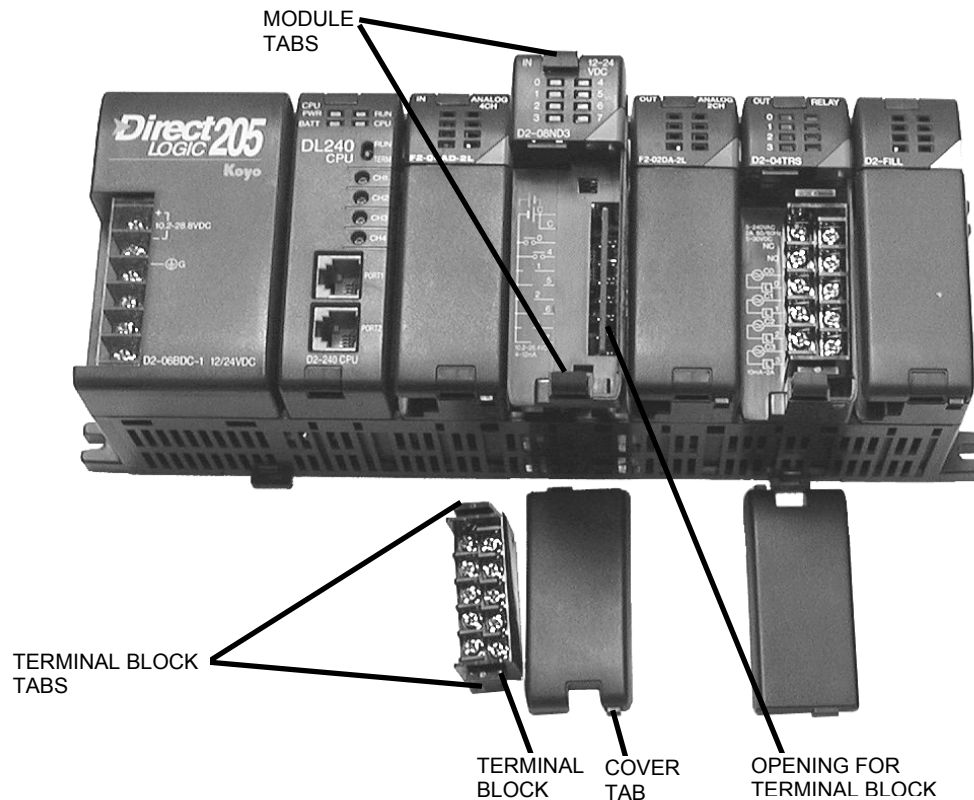

Figure 27. Removing a Module From the PLC.
- Grab the top and bottom tabs on the terminal block, pinch together and remove the terminal block (see Figure 27), unless the CPU is the module being removed.
- Pull the tabs up on the bottom and top of the module (see Figure 27). Pull the module straight out from the mounting base.
- Unless it is the CPU, install the terminal board on the module. Pinch the top and bottom tabs together and insert it into the opening in the module (see Figure 27). Install the cover by inserting the top tab into the upper opening on the module and push down on the bottom side until it snaps in.